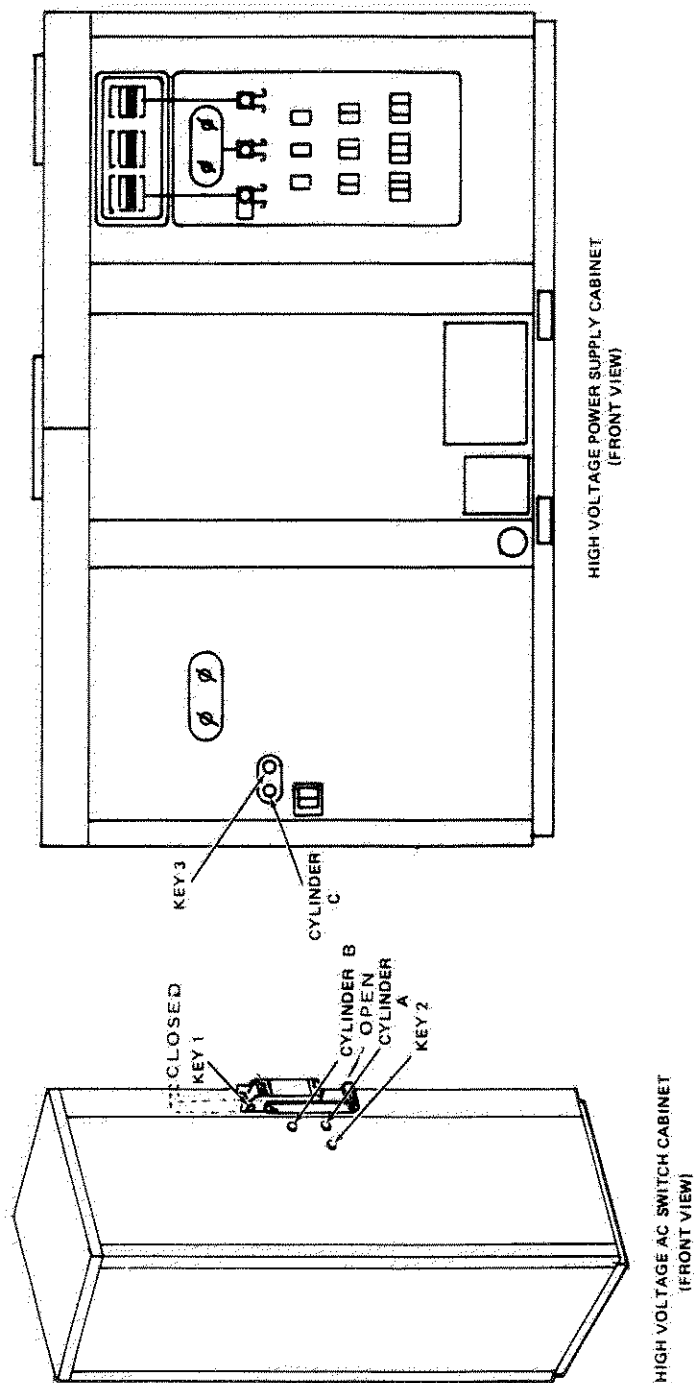

Figure 6-1. Cabinet Access Lock-and-Key System
6-2.1 General. The three cabinets are accessed through hinged doors and protective cover assemblies. Cabinets 1 and 2 provide protection against system hazards through interlock circuits that prevent application of high voltage when an INTERLOCK OPEN condition exists. In addition, a lock-and-key system (Figure 6-1) protects against 12.47 kVac being applied while cabinets 2 and 3 are being accessed. Two sets of keys are provided. One set shall be in place as shown in Figure 6-1 and the other shall be in the custody of the Site Supervisor. Replacement of lost and/or damaged keys shall be a Site Supervisor responsibility. Table 6-2 provides necessary information for key replacement.
2. At cabinet 3, pull 12.47 kVAC disconnect lever down to OPEN and tag with Maintenance-in-Progress warning sign. Use KEY 1 (Figure 6-1) at top of lever assembly to lock lever in place. Remove key and keep on person.